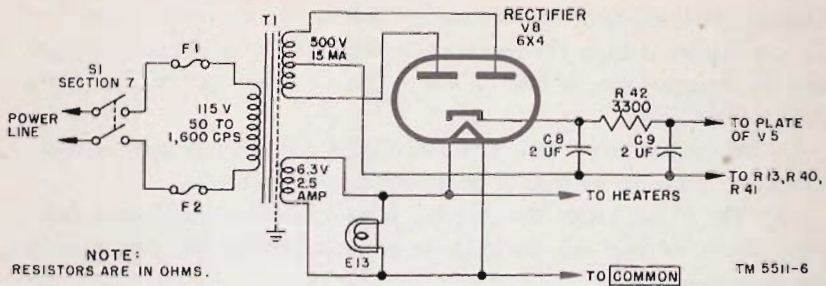

Figure 6. Power supply, simplified schematic diagram.
g. TERMINALS. (1) The OHMS and COMMON terminals are used in the measurement of resistance.
(2) The CASE terminal is a connection to the cover and chassis of the multimeter. It permits grounding the instrument so that the influence of external fields is negligible.
a. Figure 6 is a simplified schematic diagram of the power supply. It includes a conventional full-wave rectifier using a 6X4 tube (V8) to supply 310 volts at 12 ma for the amplifier plate supply. The power supply is designed to operate over a frequency range of 50 to 1,600 cps and takes approximately 20 va at 115 volts.